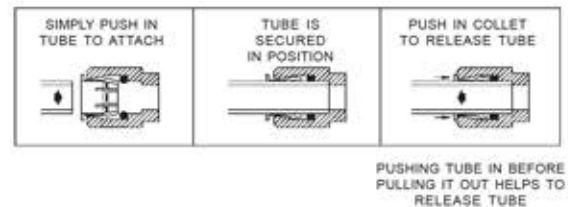

FIG. 6
3. **Remove bottom access panel** from fountain basin and save the screws. Install the fountain to the back panel and wall using (4) 5/16" bolts and washers (not provided). Bolts should be long enough to securely fasten the fountain to the wall. Tighten securely, but do not over tighten. Over tightening will crack the Marblyte Fountain.
4. **Remove elbow from end of p-trap** (item 1) and attach it to drain tube. Re-attach elbow to p-trap and cut waste tube to required length using plumbing hardware and trap as guide.
5. **Make water supply connections** from service stop to the fountain strainer (Item 16) by inserting the water inlet line into the inlet side of strainer until it reaches a positive stop about 3/4", (See Figure 6, Page 7). Turn on water supply and check for leaks. Newly installed water supply line should be insulated after leak check is completed. **DO NOT SOLDER TUBES INSERTED INTO THE STRAINER AS DAMAGE TO THE O-RINGS MAY RESULT.**
Actuation of Quick Connect Water Fittings: Cooler is provided with lead-free connectors which utilize an o-ring water seal. To remove tubing from the fitting, relieve water pressure, push in on the gray collar while pulling on the tubing.(See Figure 6, Page 7). To insert tubing, push tube straight into fitting until it reaches a positive stop, approximately 3/4".